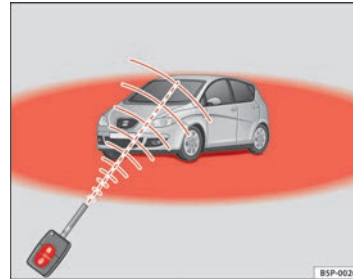

Fig. 65 Range of the radio frequency remote control
- The radio frequency remote control functions only when you are in range → Fig. 65 (red area).